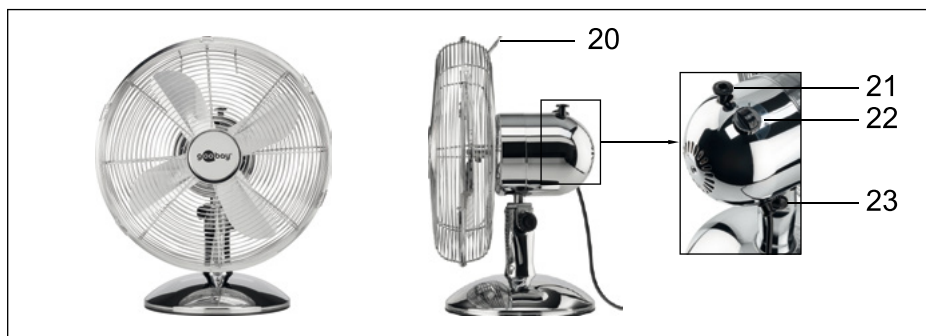

Fig. 15: Ready mounted table fan
4. Loosen the tilt adjustment screw (fig. 15, no. 23).
*The blower intensity can be adjusted in 3 steps by turning the rotary switch (fig. 15, no. 22):*